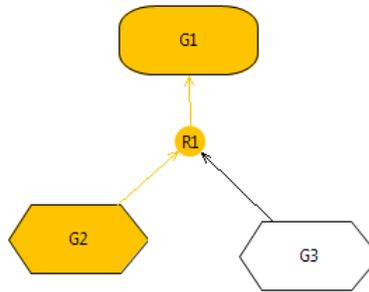

Figure 42: Highlighted UnSAT Core result
- Highlight parts of the model in yellow, which are unrealizable/unsatisfied (Figure 42).